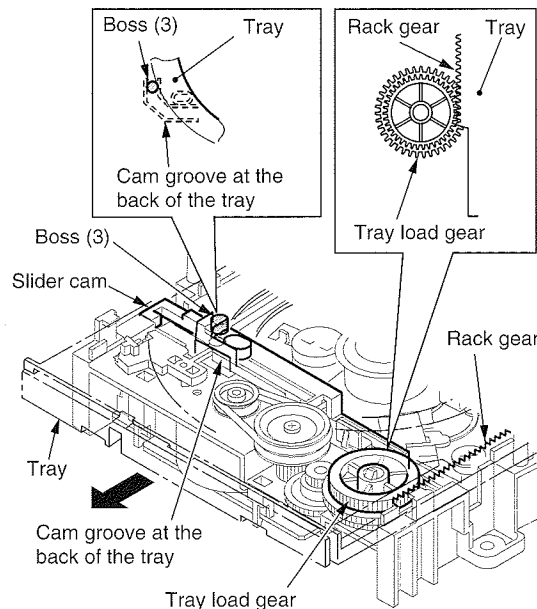
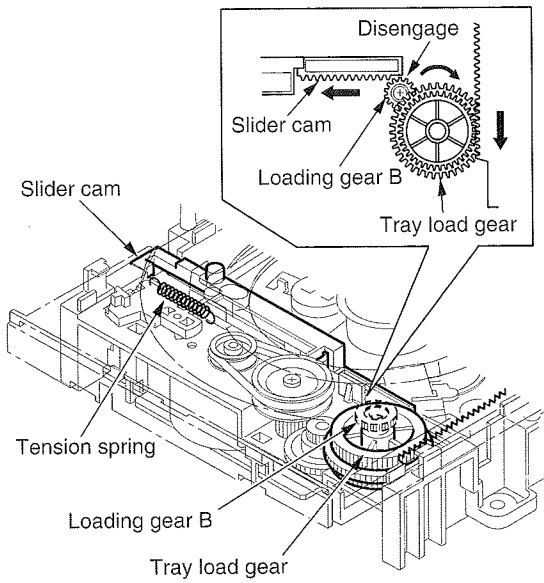

Fig. 1-5
Fig. 1-6
- Fig. 1-5 and Fig. 1-6 show the condition to move the tray. The boss (3) of the slider cam pushes the bent corner of the cam groove at the back of the tray, the tray is pushed forward, and the rack gear at the back of the tray engages with the top gear of the tray load gear.